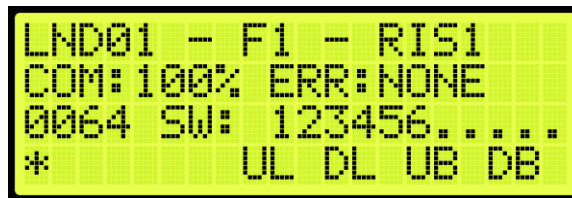

Figure 381: Hall Board Status for the 64th Landing
2. From the Hall Security menu, scroll up or down to view the floors that are set for hall security (See Figure 381).